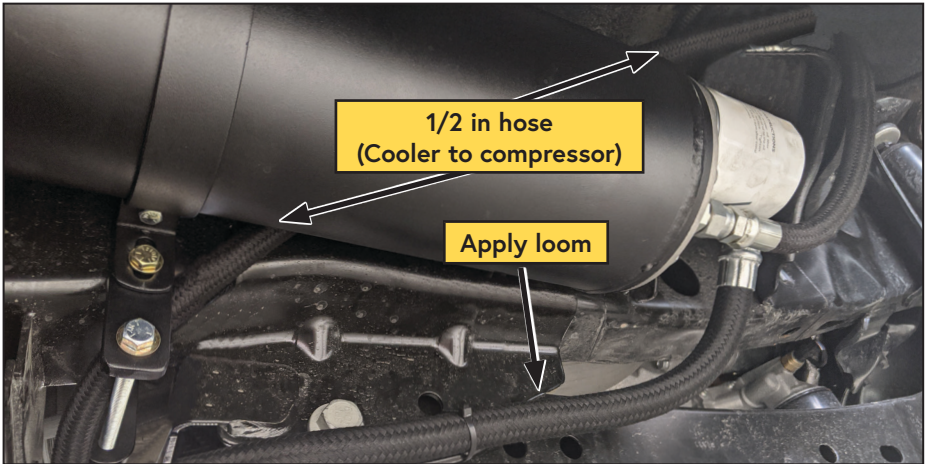

Figure 30 — Routing the hoses
- ☐ Route the 1/2 in hose (cooler to compressor) between the frame and the AOST, and down through the forward AOST bracket (Figure 30).
- ☐ Route the 3/4 in hose over to the control arm, past the control arm mount and around to the transmission crossmember (Figure 30).